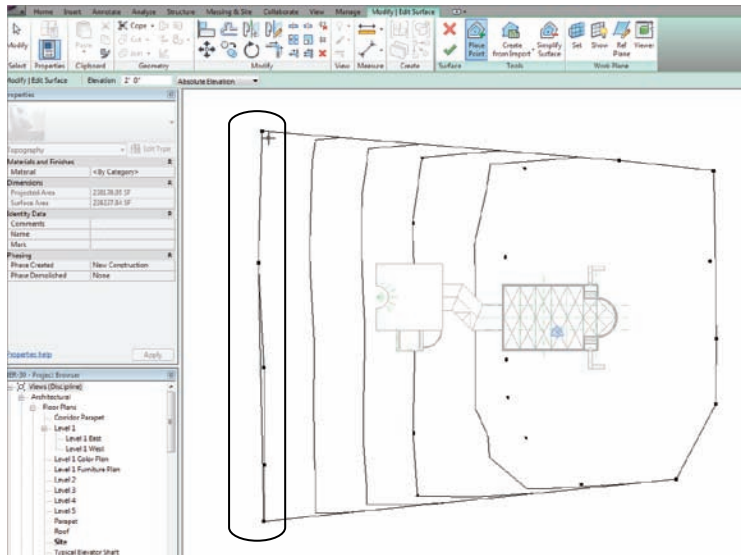

FIGURE 18.4 Adding the third set of contours
10. Add a third contour line to the left of the second, as shown in Figure 18.4.